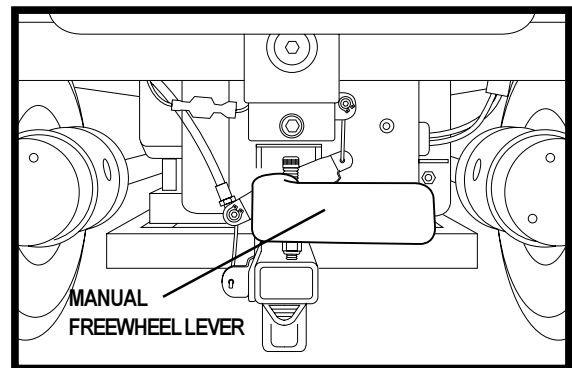

Figure 5a. Drive Mode (Drive Engaged)
2. Rotate the manual freewheel lever counterclockwise for drive mode (drive motors engaged.) See figure 5a.